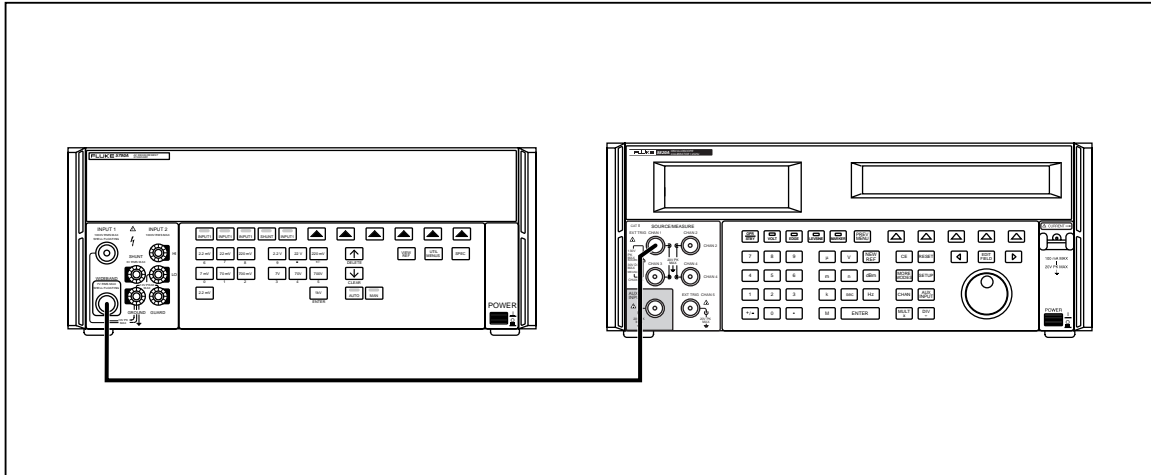

Figure 3-3. Connecting the Calibrator Mainframe to the 5790A AC Measurement Standard
1. Connect the N to BNC cable to the Calibrator Mainframe’s CHAN 1 connector. Connect the other end of the N to BNC cable to the 50 Ω feedthrough termination then to the 5790A INPUT 2 using the BNC(f) to Double Banana adapter. Refer to Figure 3-3 for the proper equipment connections.